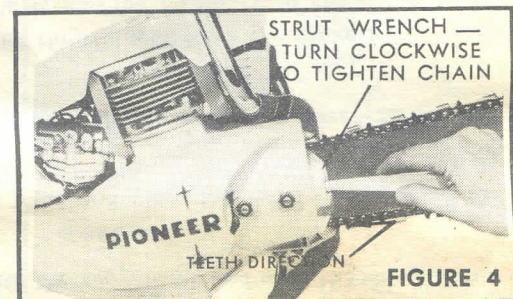

FIGURE 4
4. Assemble the chain to the sprocket and cutter bar making sure that the cutting teeth direction is correct (figure 4).
6. Tighten chain, using the adjusting screw (figure 4). Then back off until the chain can be pulled freely around the bar by hand (figure 5). **CAUTION** — Use gloves or cloth to protect your hands.